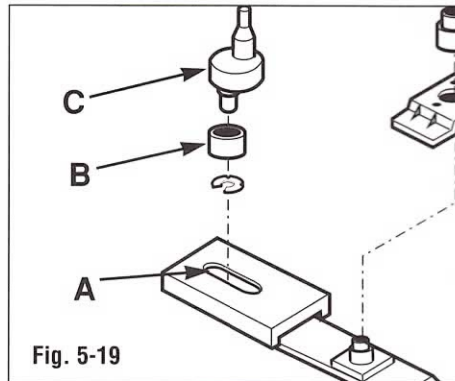

Fig. 5-19
The eccentric channel (A, Fig. 5-19) and radial bearing (B) are high-wear parts.